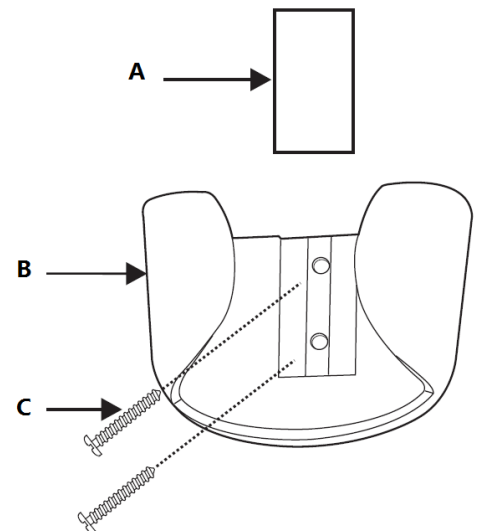

Fig. 15
Replace the cover (A) into holder (B). **Fig. 15**